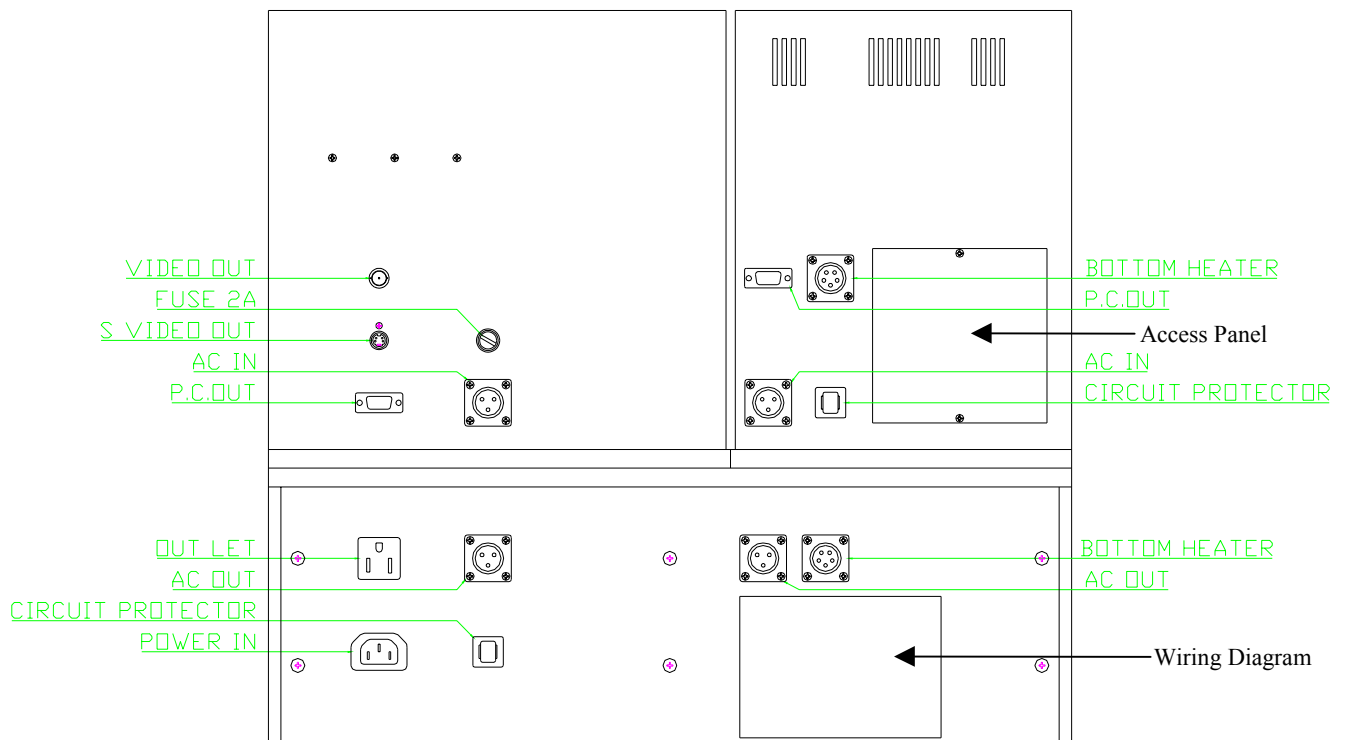

Figure 2: Back of TF 2000
- 1-4 Connect the power cables as indicated in the wiring diagram label on the back of the units. See Figure 2.